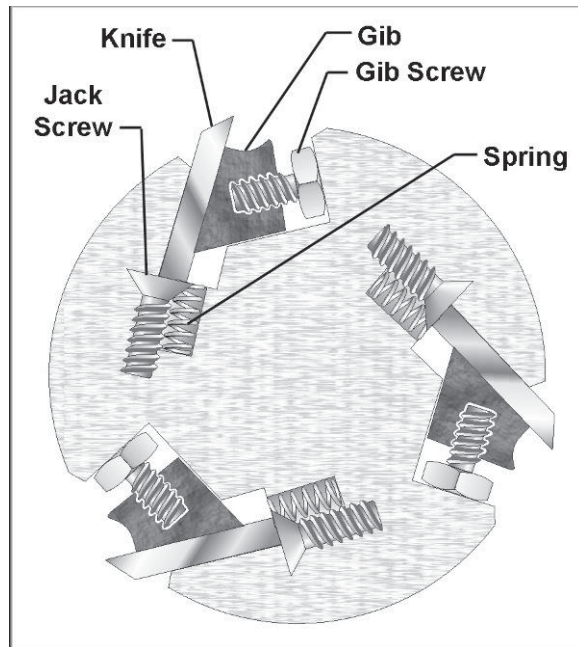

Figure 36 (straight cutterhead)
3. Remove the old knives by loosening the square head gib screws with an 8mm wrench. See Figure 36. The springs in the cutterhead will raise the knife for easy removal. Remove knife and gib.
4. Clean the gib and the knife slot. Sandwich the new knife and gib together and drop into slot. Make sure the knife is oriented properly in the cutterhead, as shown in Figure 36.